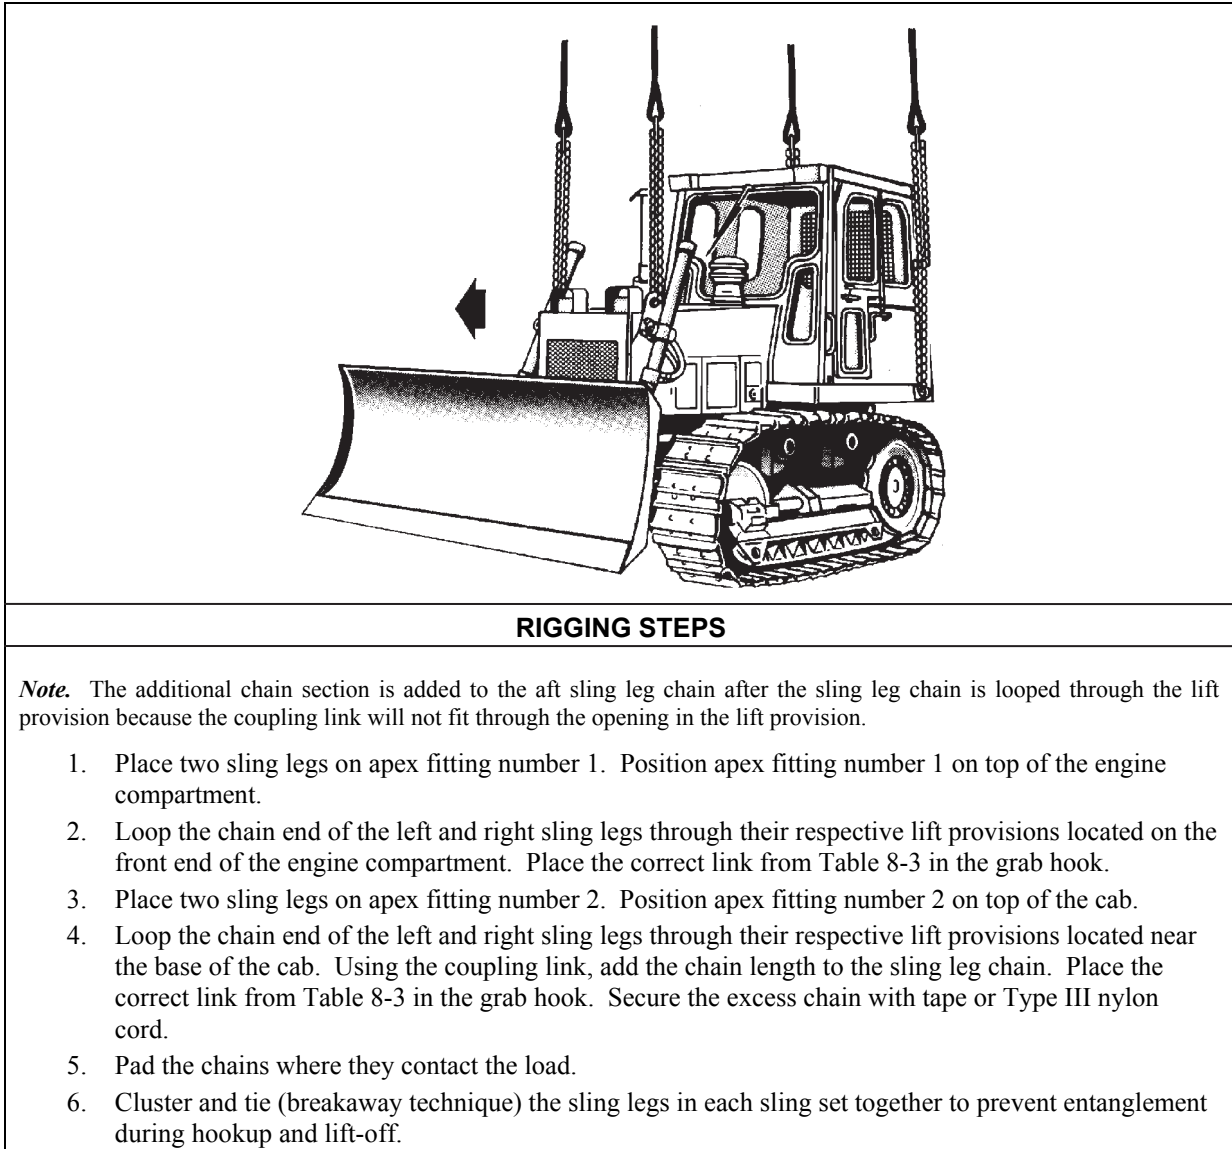

Figure 8-3. Tractor, Full-Track, Case Model 1150E
- **Rigging.** Rig the load according to the steps in Figure 8-3.